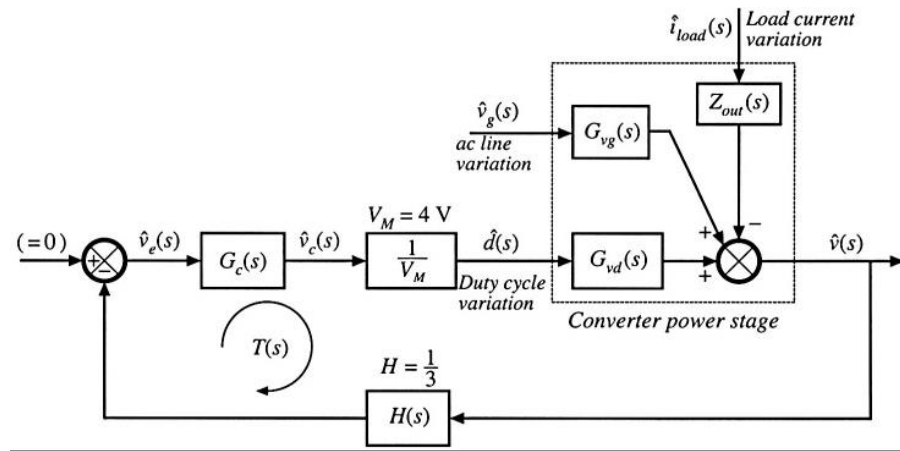

Figure 15. Block Diagram of the Buck Converter Control System
The System block Diagram is shown in Figure 15, the loop gain of the system T(s) can be found from the system block diagram and is shown in equation (8).